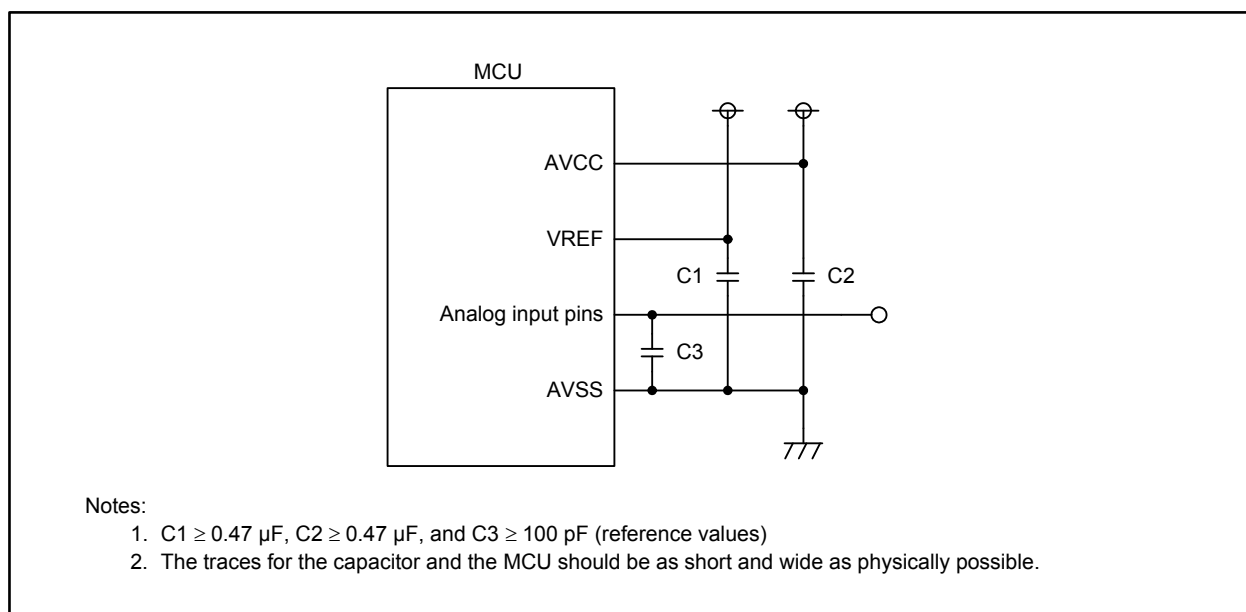

Figure 18.13 Pin Configuration for the A/D Converter
- Three capacitors should be placed between the AVSS pin and pins such as AVCC, VREF, and analog inputs (AN_0 to AN_7, AN0_0 to AN0_7, and AN2_0 to AN2_7) to avoid erroneous operations caused by noise or latchup, and to reduce conversion errors. Figure 18.13 shows an example of pin configuration for A/D converter.